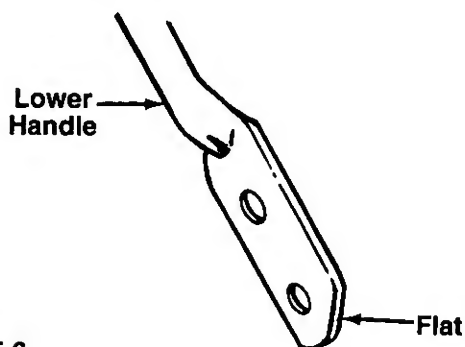

FIGURE 6.
4. Turn the lower handle around so the flat on the bottom is facing upward as shown in figure 6. Reassemble, placing the bottom holes in the handle over the weld pins in the handle mounting bracket.